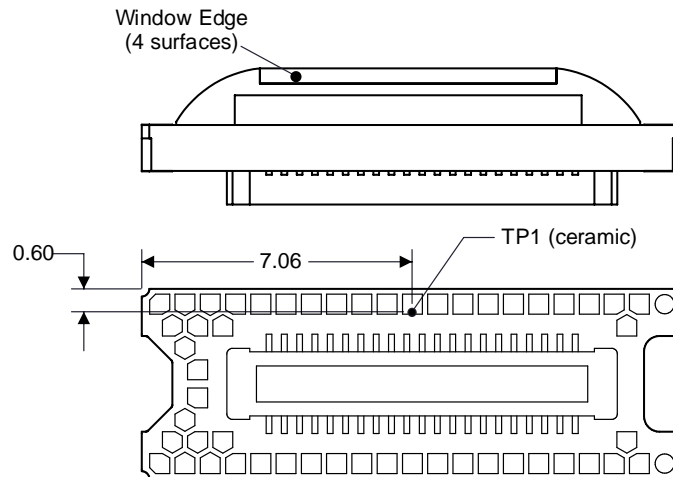

Figure 10. DMD Thermal Test Point
- T_{CERAMIC} = Measured ceramic temperature (°C), TP1 location in Figure 10
- Q_{ARRAY} = Total DMD power; electrical plus absorbed (calculated) (W)
- $Q_{\text{ELECTRICAL}}$ = Nominal DMD electrical power dissipation (W)
- SL = Measured ANSI screen lumens (lm) (3)